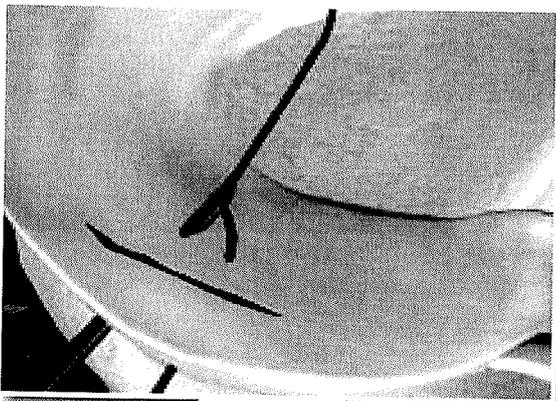

Figure 10
- ∂ Remove the second needle from the joint (Figure 10) under arthroscopic visualization.